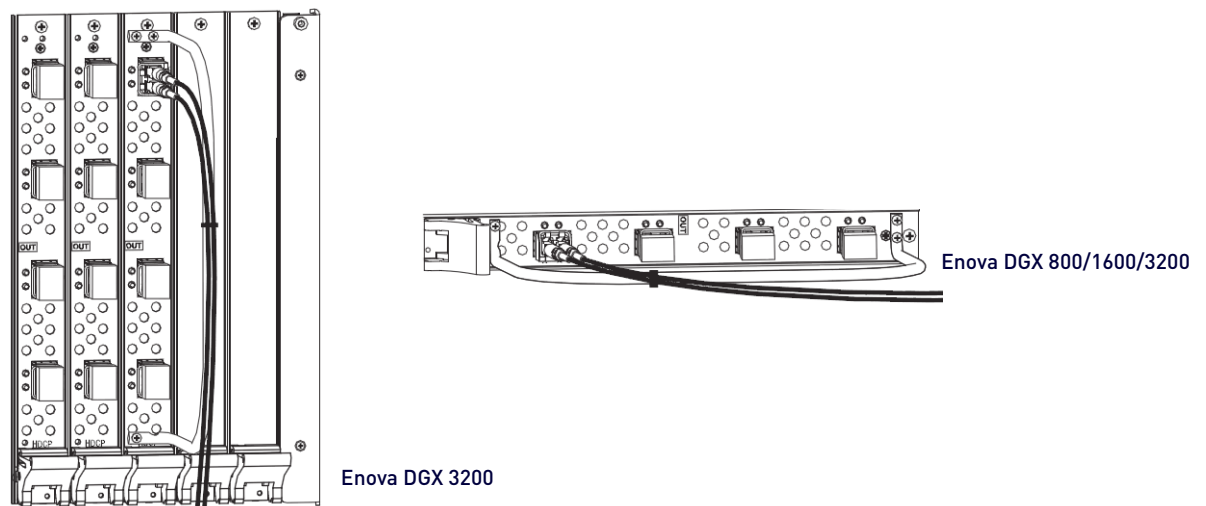

FIG. 54 Attach cables to input and output connectors (shown with cable management bar)
4. Tie the DXLink fiber cable to the cable management bar far enough below the connector to allow for the manufacturer's recommended bend radius (FIG. 54).